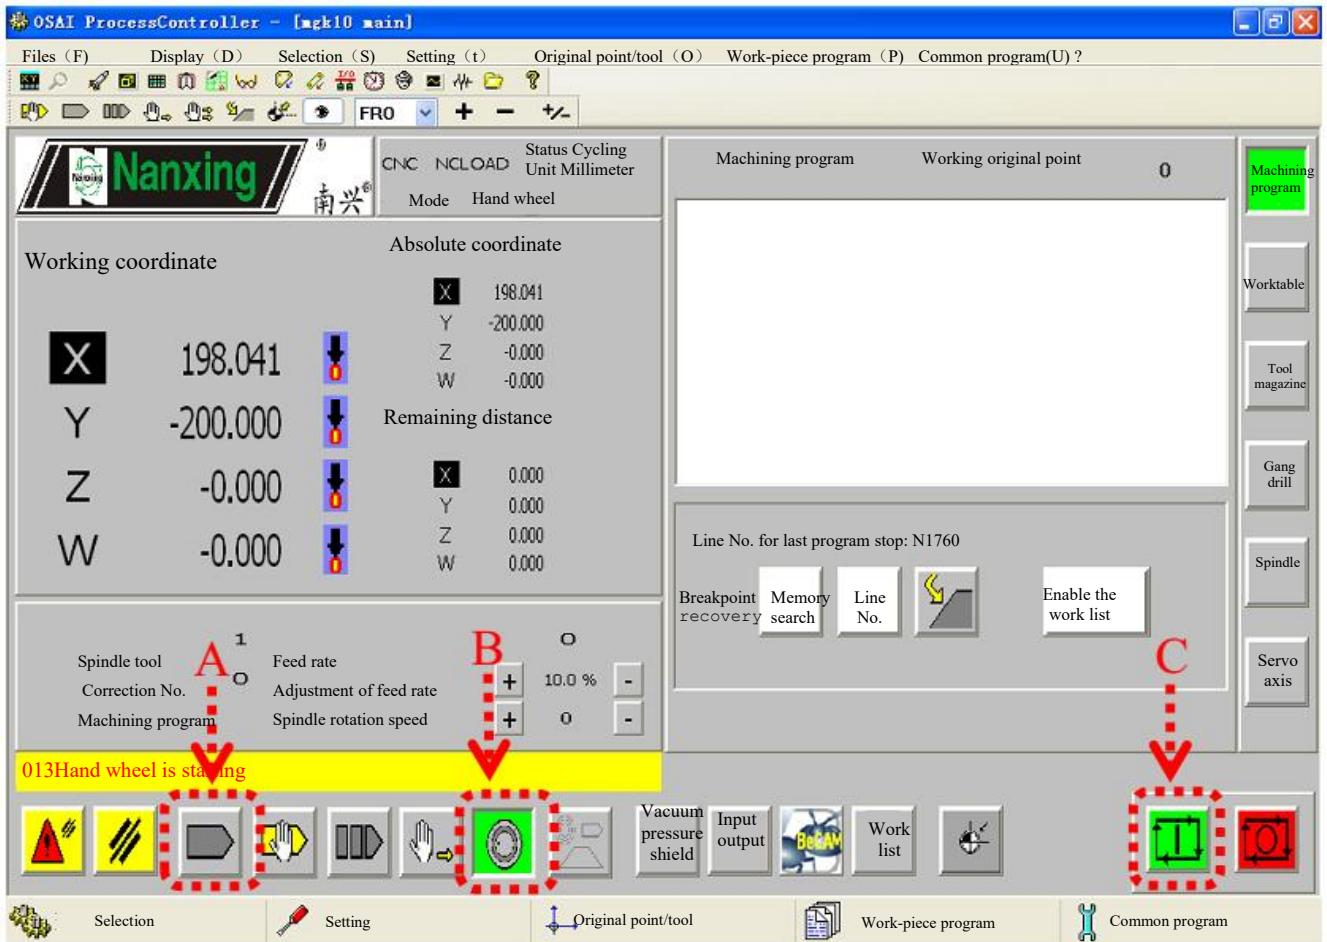

Fig.6.18
1. Under  (Automatic mode), Click  (Processing with hand wheel), as shown in Fig.6.18(A) and (B) .
2. Click  (Start-up), as shown in Fig.6.18(C)